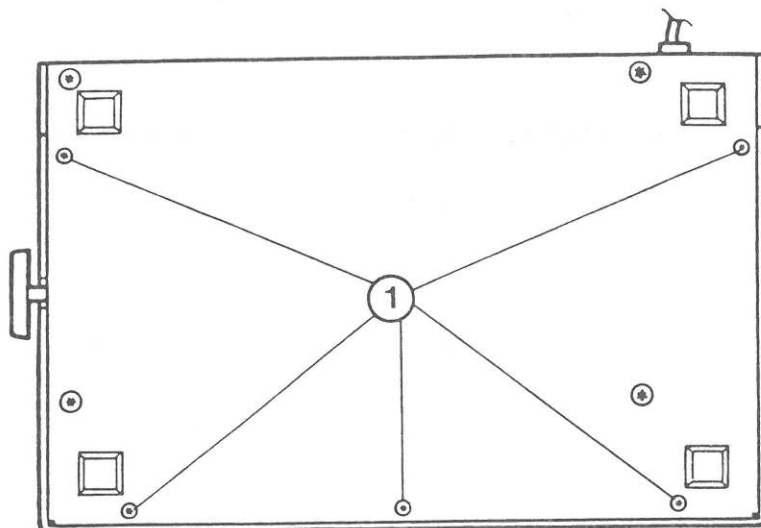

FIGURE 1
4. Using a Torx screwdriver, remove the five screws around the outside of the base which hold the plastic cover on (see Figure 1).